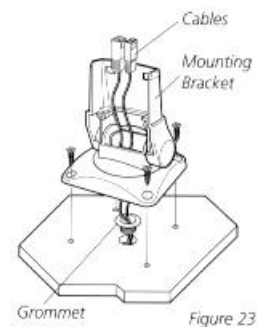

Figure 23
5. Place the mounting bracket on the mounting surface aligned with the drilled holes. Insert the four flathead wood screws into the mounting holes and tighten fully (Figure 23).